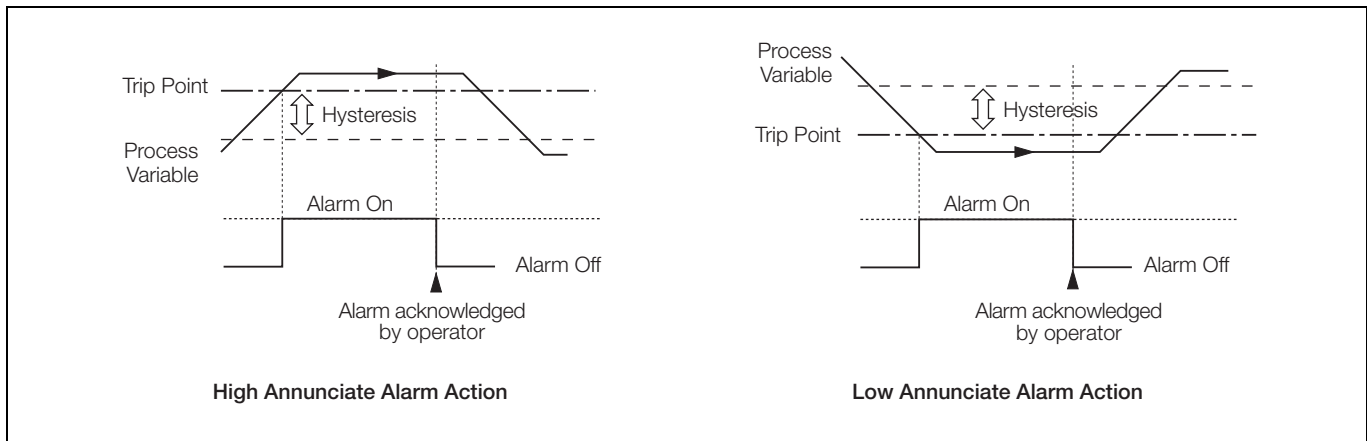

Fig. 6.13 High/Low Annunciate Alarms
- High/Low annunciate – see Fig. 6.13, page 82
Note. Annunciate alarms only – see Fig. 6.13.